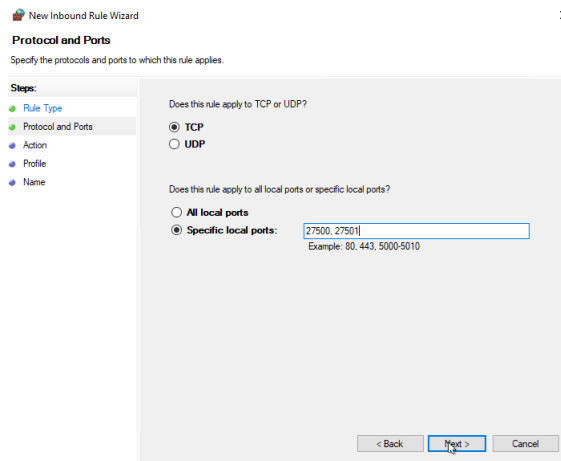

Figure B.3. New firewall rule: protocol and port number
3. Then choose **Port** and click **Next**. The next dialog page Figure B.3 will appear.